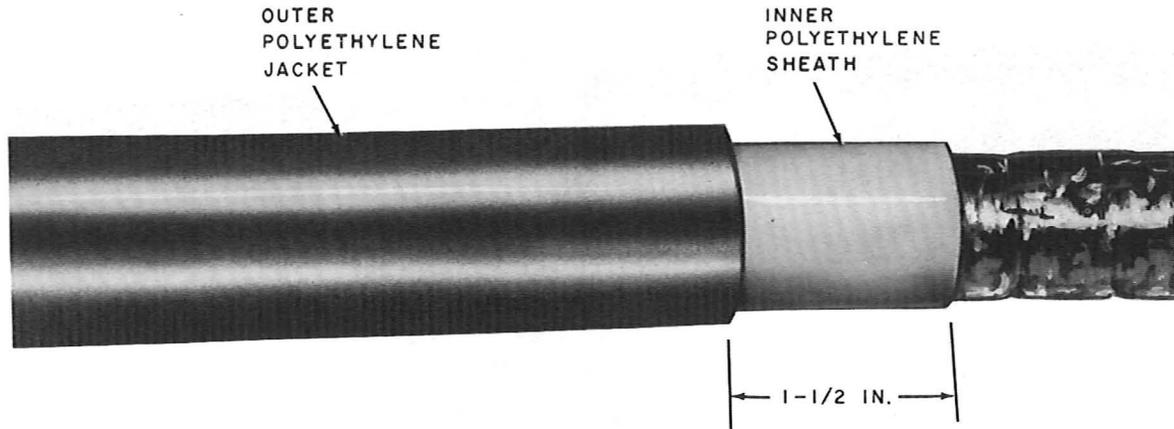

Fig. 3—Removed Cable Sheath
3.04 Cut and remove the inner polyethylene sheath as shown in Fig. 3.
Note: Only the left-hand cable is illustrated in Fig. 3 through 12; however, the steps outlined herein apply equally to both cable ends unless otherwise noted.